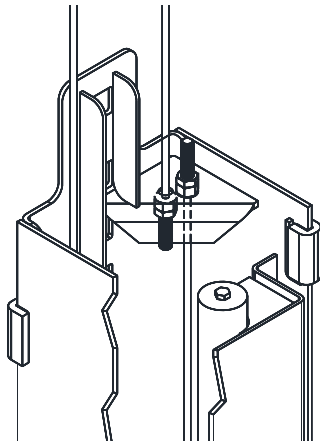

Fig. 11a – Cable Assembly
- 26) Mount synchronizer cables to carriages as shown in **Fig. 11a & 11b.** If installing at 114-1/2" inside of columns refer to **Fig. C** of the *Width*